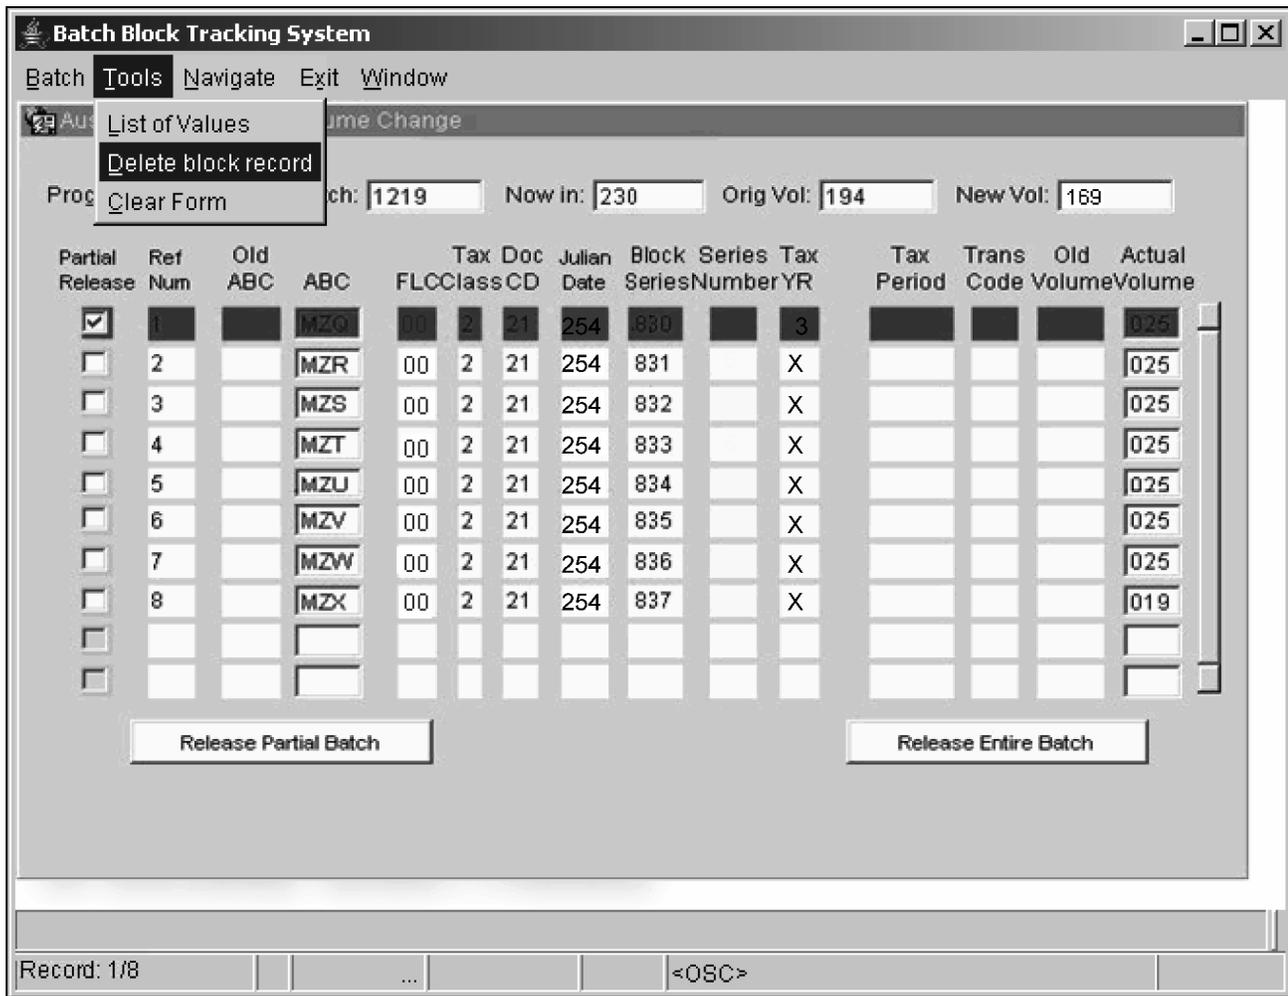

Figure 3.10.5-40 Navigating to Delete Block Record
- (6) Make the change. Press **<ENTER>** and record will be highlighted and the partial release indicator will be checked.
- (7) When finished with all volume changes, press the “Release Entire Batch” button for final release or use the procedures below for releasing a Partial Batch:
(8) If this block is to be deleted, follow the instructions in (9) below. **See Figure 3.10.5-40**